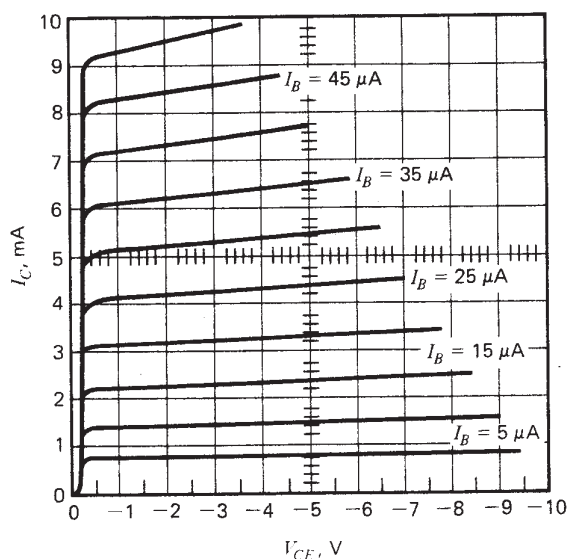

Fig. 58-2. 2N3638 family of curves (approximate).
12. Draw a dc load line on the family of characteristic curves for a 2N3638 shown in Fig. 58-2, where $R_C = 1$ k Ω and $V_{CC} = 10$ V.